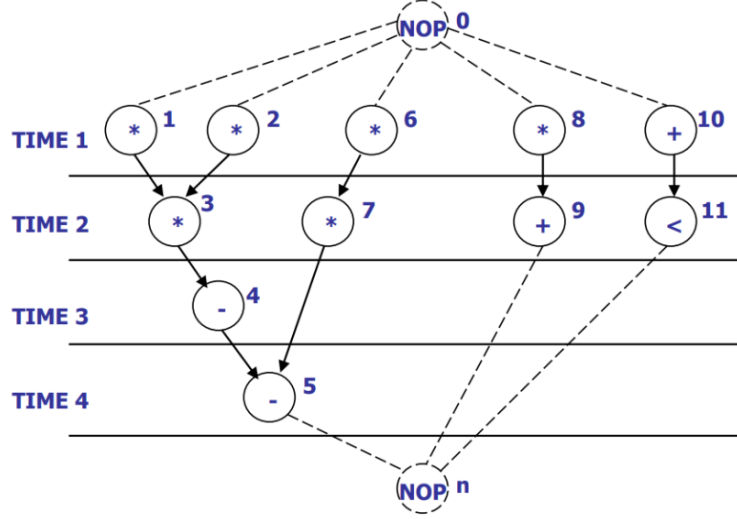
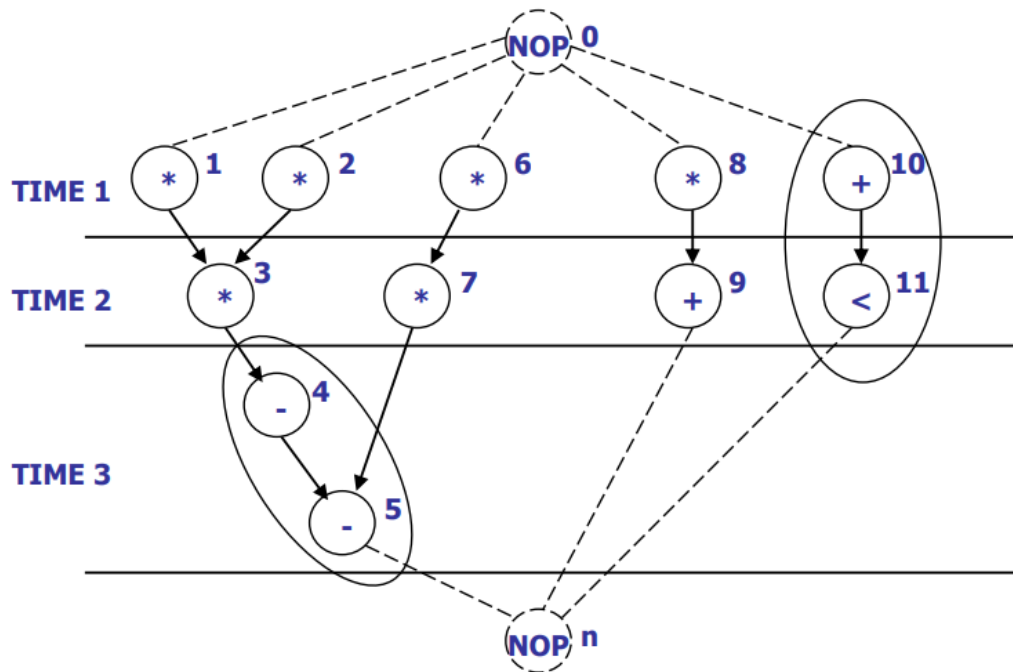

Figure 25: Sequencing graph that has been scheduled
Figure 33: Chained operations
- Note also that there is a cycle-time and latency tradeoff. Compared to Fig25, we notice that Fig33 has a longer cycle-time (but shorter latency)